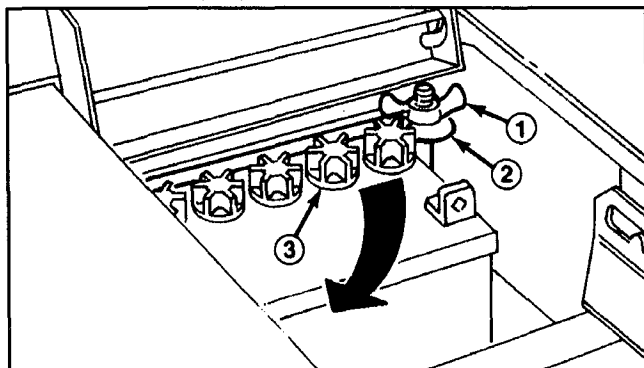

Figure 4
2. Remove wing nut securing battery hold downs to rider chassis (Fig. 4).